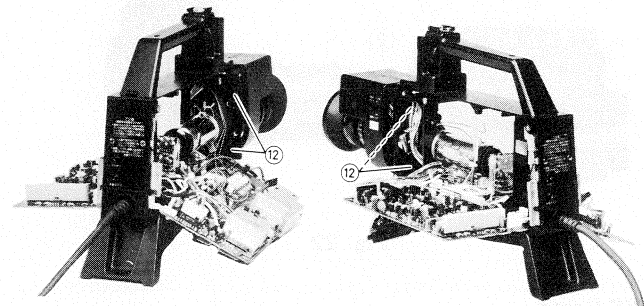

Fig. 19
12. Remove the 4 screws to remove the lens from the front chassis (Fig. 19).